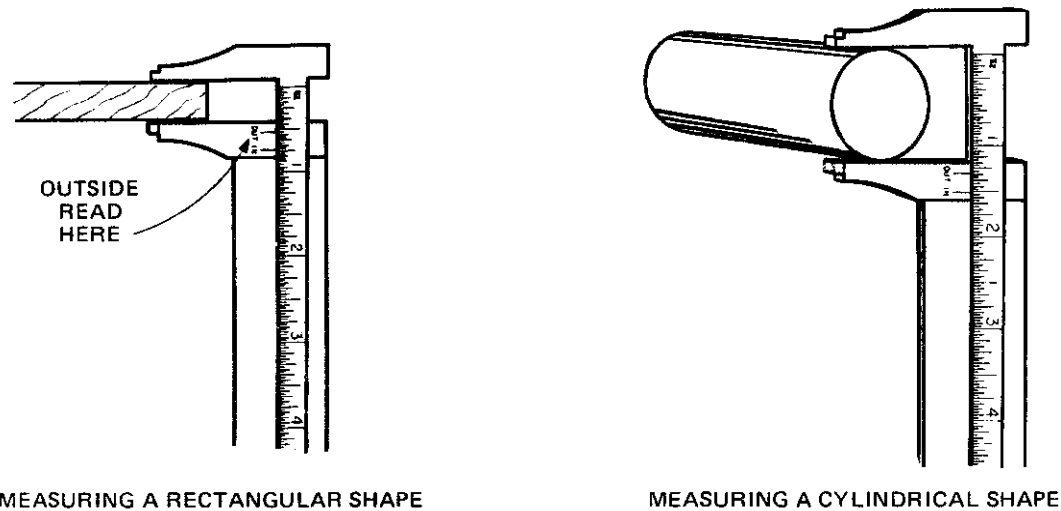

Fig. 2-20 Applications of caliper rule for taking outside dimensions.
3. Move the sliding rule inward so both faces of the calipers slightly touch the surfaces of the object as shown in figure 2-20.